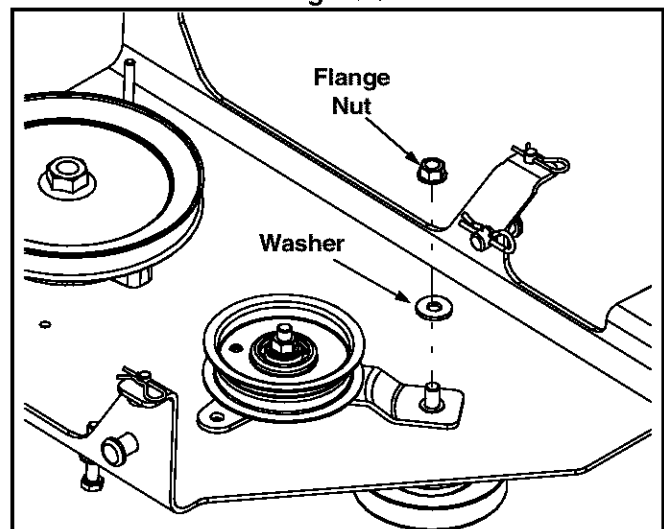

Figure 4
- Fasten the idler bracket to the undercarriage with the hardware just removed. See Figure 4.